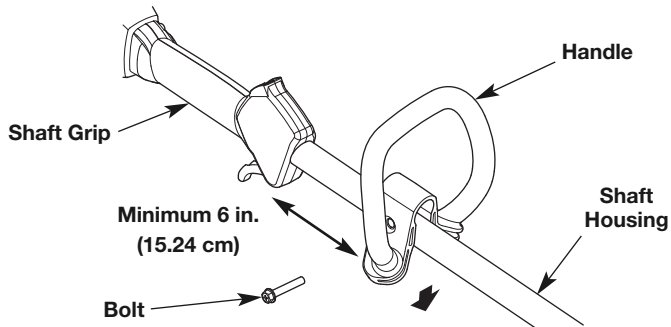

Fig. 2
1. Push the handle down onto the shaft housing (Fig. 2). The bolt hole in the handle should be to the right.
2. Insert the bolt into the bolt hole and push it through (Fig. 2). Tighten the bolt with a 3/8" socket, but do not tighten the bolt completely.
3. While holding the unit in the operating position (Fig. 7), move the handle to the location that provides the best grip. Place it a minimum of 6 inches (15.24 cm) from the end of the shaft grip (Fig. 2).
1. Loosen the bolt with a 3/8" socket (Fig. 2).
2. While holding the unit in the operating position (Fig. 9), move the handle to the location that provides the best grip. Place it a minimum of 6 inches (15.24 cm) from the end of the shaft grip (Fig. 2).